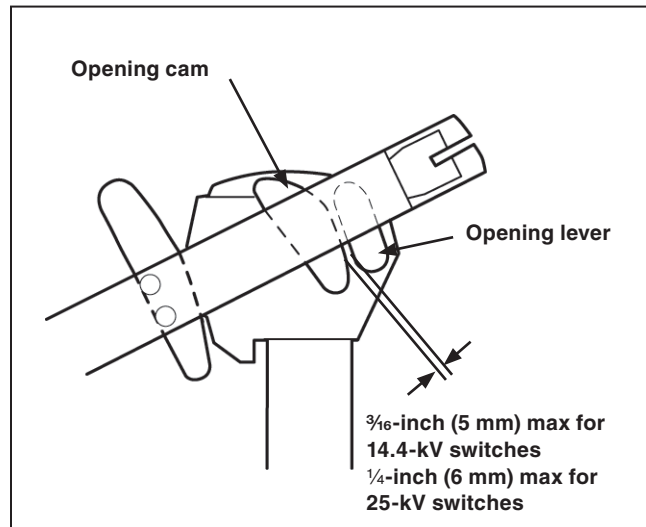

Figure 40. Blade assembly moving in the closing direction.
- As the blades move in the closing direction, clearance between the blade opening cams and the interrupter opening levers must be within the limit shown. See Figure 40.